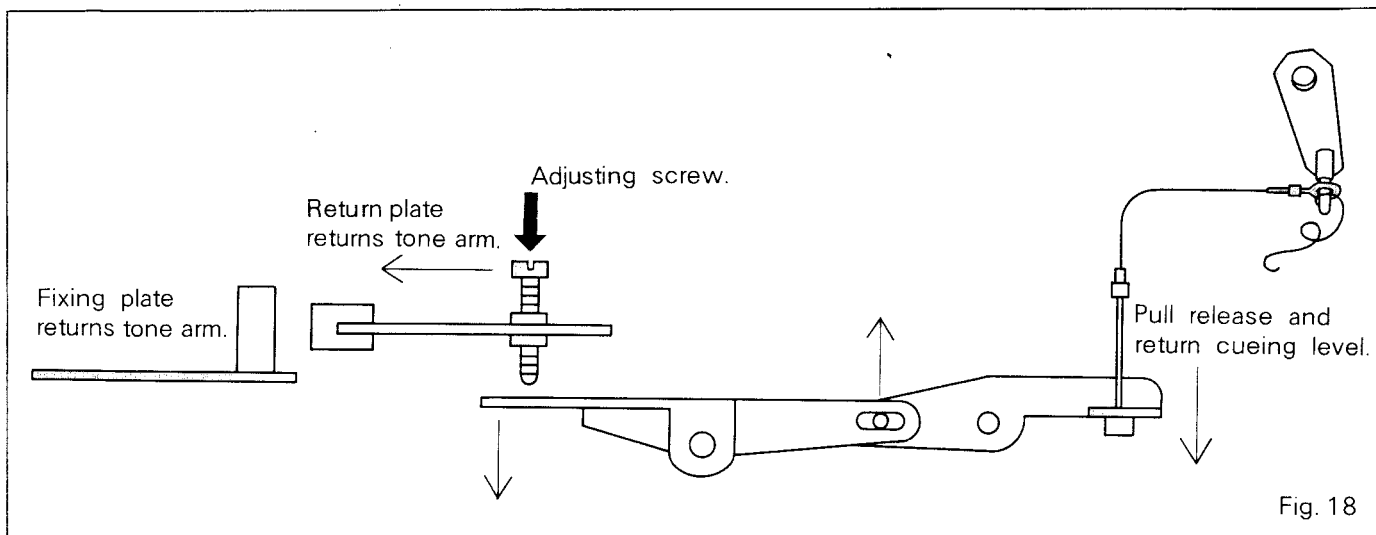

Fig. 18
- (1) Remove the bottom base from the set and put the set on a stable table.
- (2) Fully loosen the screw in Fig. 18.
- (3) Adjust the screw in Fig. 18 so that the cueing lever returns at the same time as the tone arm when the speed change lever is set to 33 rpm and auto return operation is effected.